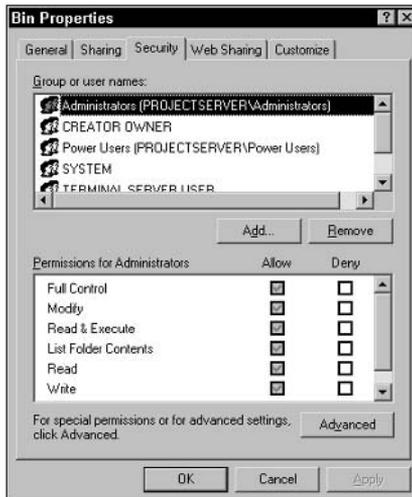

Figure 19-55: Use this box to add permissions to the repository.
3. Right-click the `Bin` folder, and click `Properties` from the shortcut menu that appears to open the `Bin Properties` dialog box (see Figure 19-55).